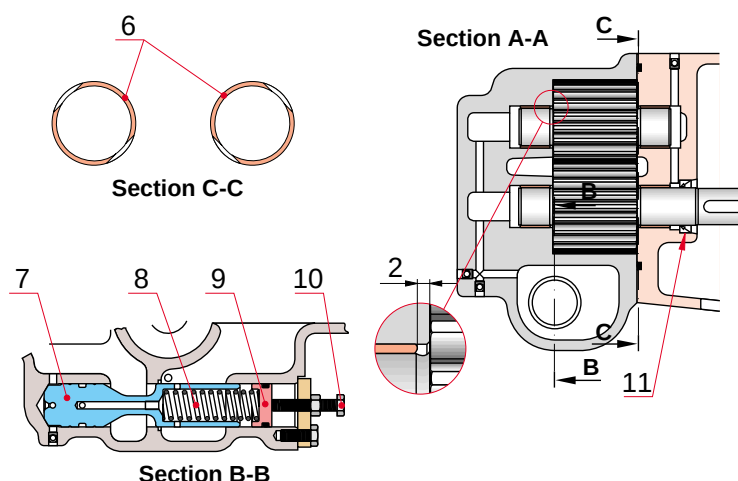

Fig 18-9
- 3 Mount new bearings** (freezing is recommended) so that the bearings are two 2 mm below the cover and housing level, Fig 18-9. Be careful so that bearing lubrication grooves slide into the right position according to section C-C in Fig 18-9.
The pressure regulating valve, see Fig 18-9, is integrated in the prelubricating oil pump housing and regulates the oil pressure before the engine by returning the surplus oil direct from the pressure side of the pump to the suction side.